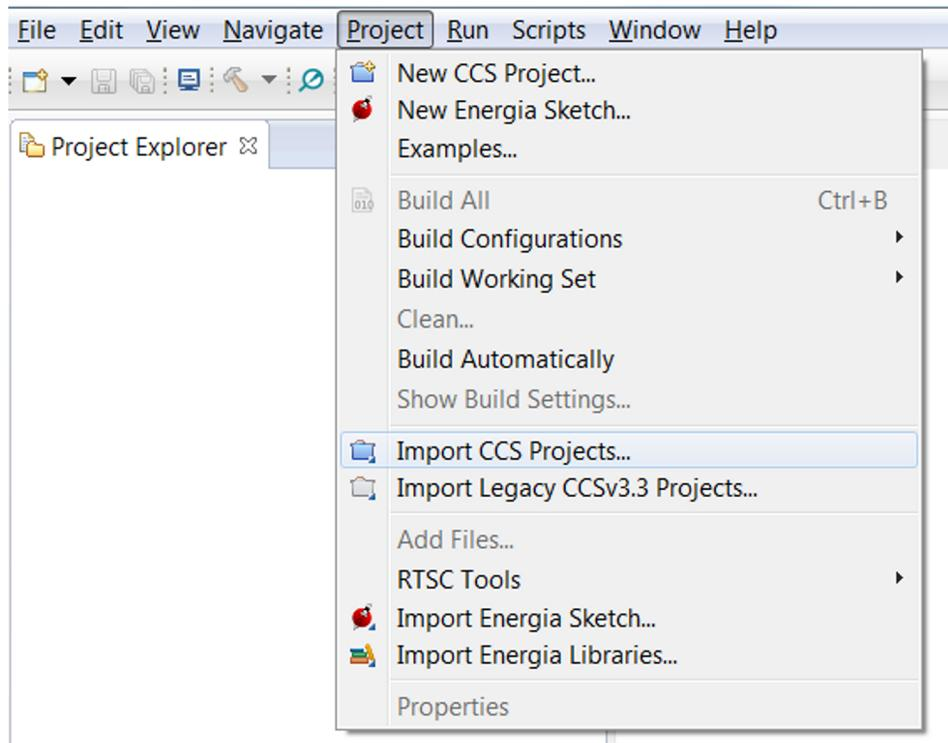

Figure 20. Import Project
2. Import the project (see Figure 20).